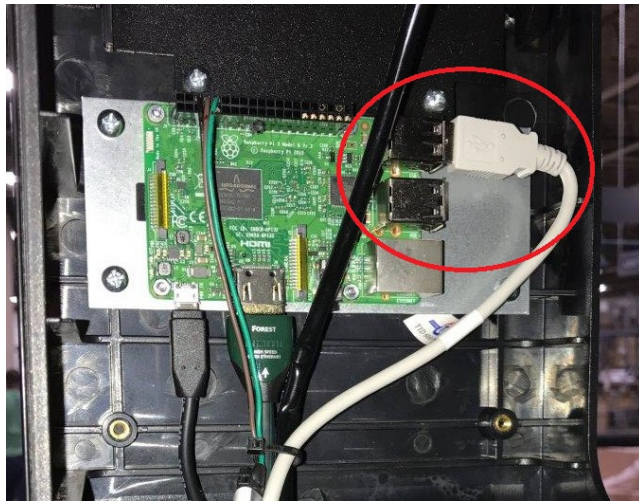

Figure 51
1. Plug the USB Flash drive into a USB port on the SBC board inside your machine located high on the inside pull out door. (See Figure 51.)